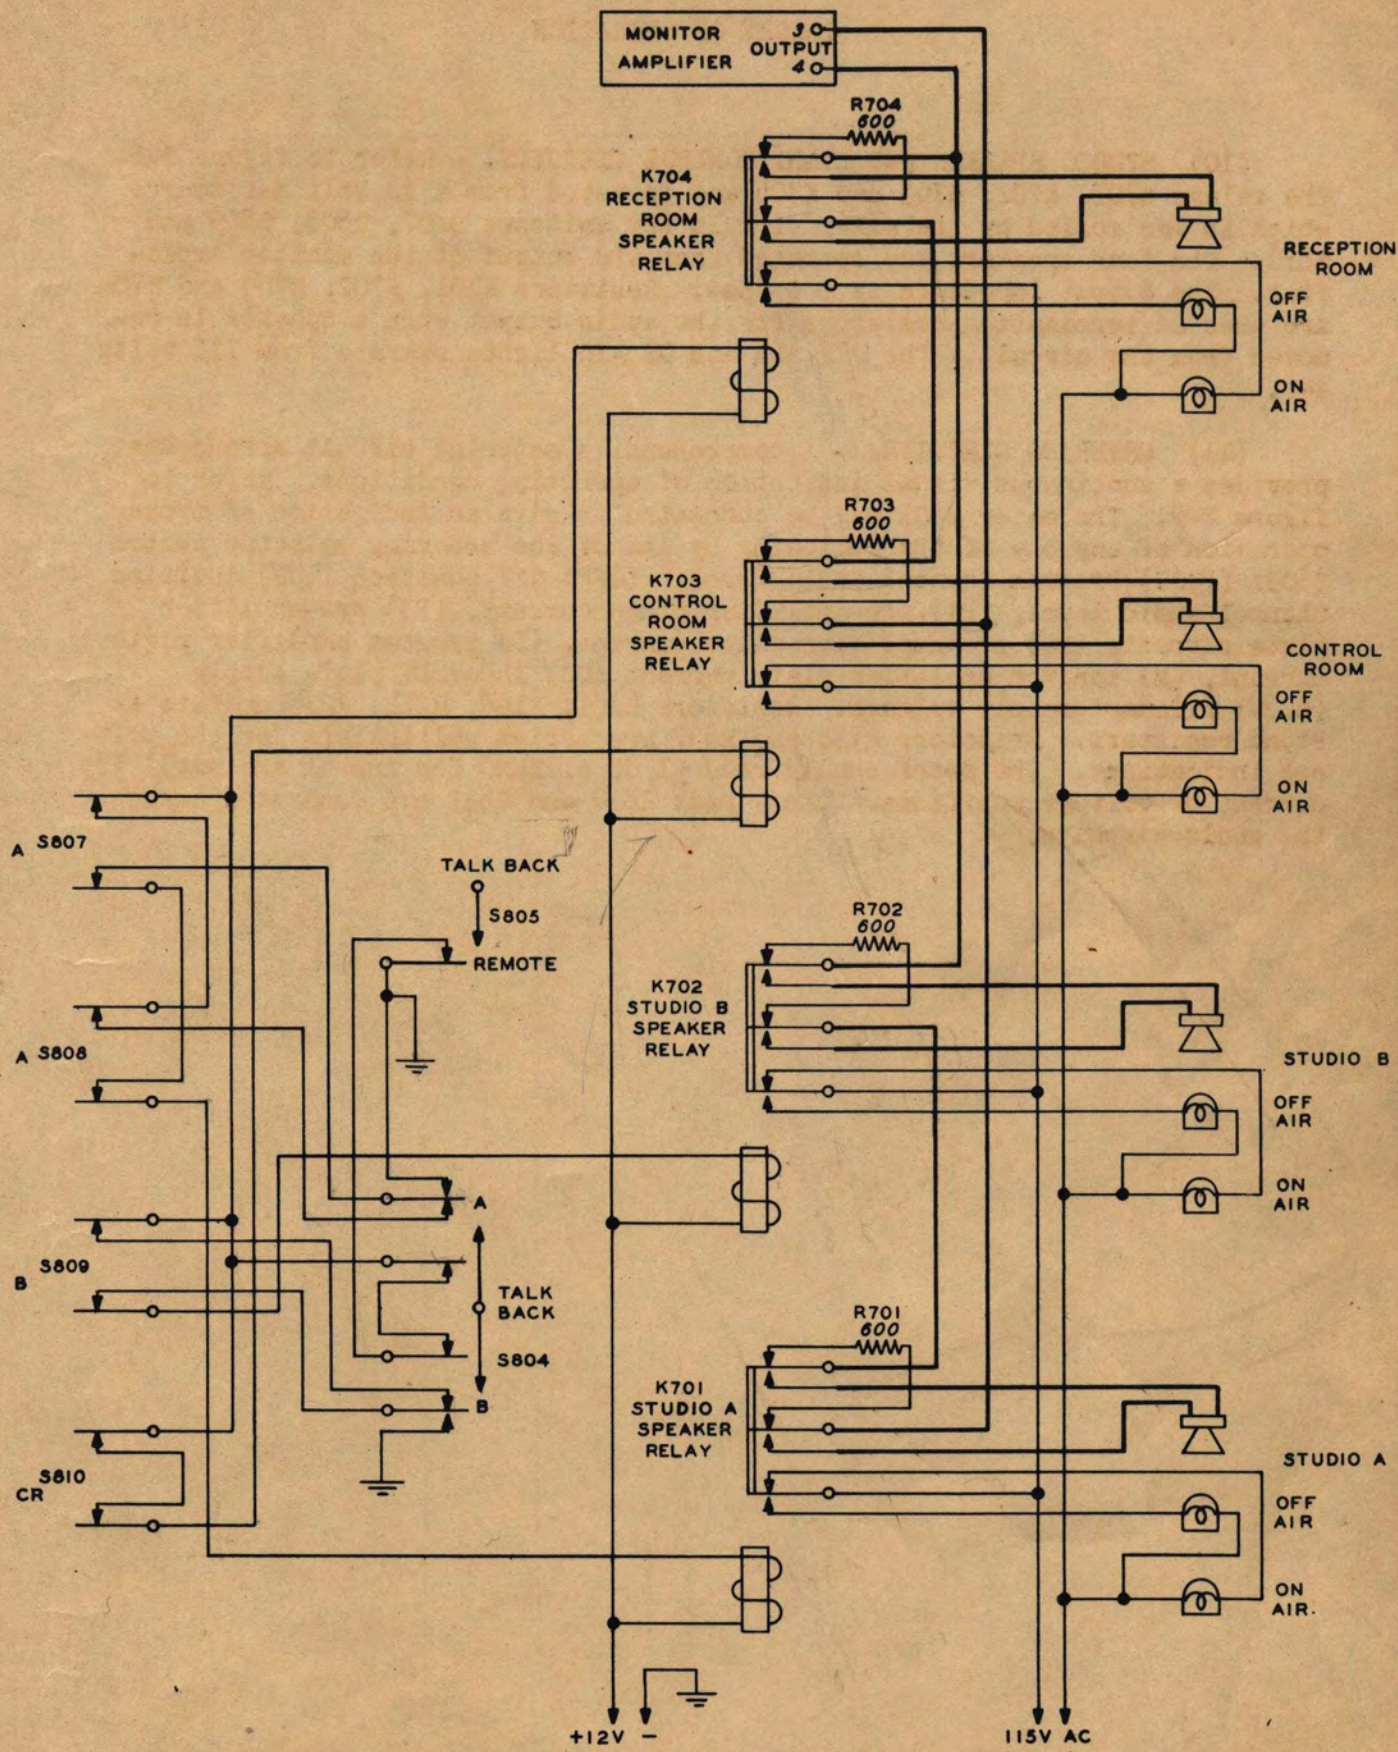

Figure 2-8 Studio Speaker and Light Control Circuits
(10) STUDIO SPEAKER AND LIGHT CONTROL CIRCUITS. - Refer to figure 2-8. The relays K701, K702, K703 and K704 are operated from a 12 volt d-c source which is controlled by the mixer circuit key switches S807, S808, S809 and S810. The four speakers are operated from the output of the monitor amplifier. The output impedance is 600 ohms. Resistors R701, R702, R703 and R704 are used as terminating resistors for the audio output when a speaker is removed from the circuit. The OFF AIR and ON AIR lights operate from 115 volts a-c.